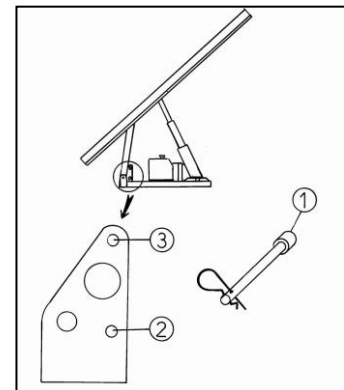

Figure 6.2
- Raise the load bed to the maximum height. See Figure 6.2.
- Remove the safety pin (1) from the housing (2) and insert pin into hole (3).